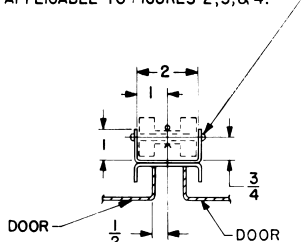

Figure 2
(1) $\frac{1}{4}$ DRILL IN EACH LEG OF INSIDE DOOR CHANNEL AT ϕ OF VAULT HANDLE APPLICABLE TO FIGURES 2, 3, & 4.
Figures 2 and 3 show the type of channel construction where two doors close on a common channel.
In Figure 2, the dimensions apply when a Type M8 kit is used on each regardless of whether a Class 9423 Type M2 auxiliary door interlock is used.